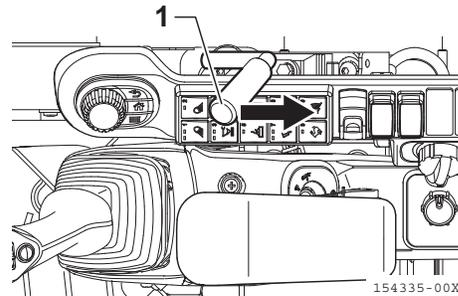

Fig. 3-23
3. Pull back the blade lever (**Fig. 3-23, 1**) to raise the blade.